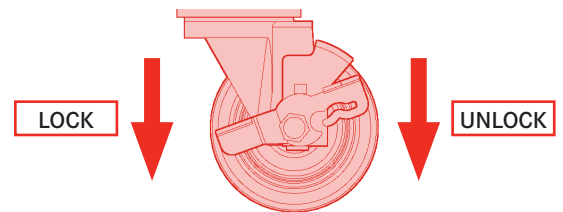

Fig. 5
8. Set the refrigerator into position and lock casters in place (Fig. 5).